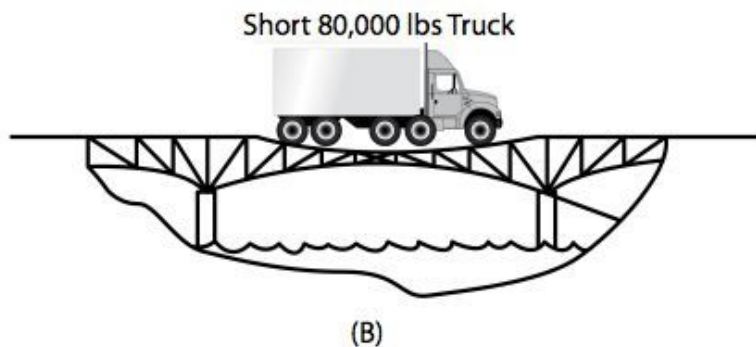

Figure 1
In Figure 1 (A), the stress on bridge members as the longer truck rolls across is much less than that caused by the short vehicle in Figure 1 (B), even though both trucks have the same total weight and individual axle weights. The weight of the longer vehicle is spread out, while the shorter vehicle has all of the weight